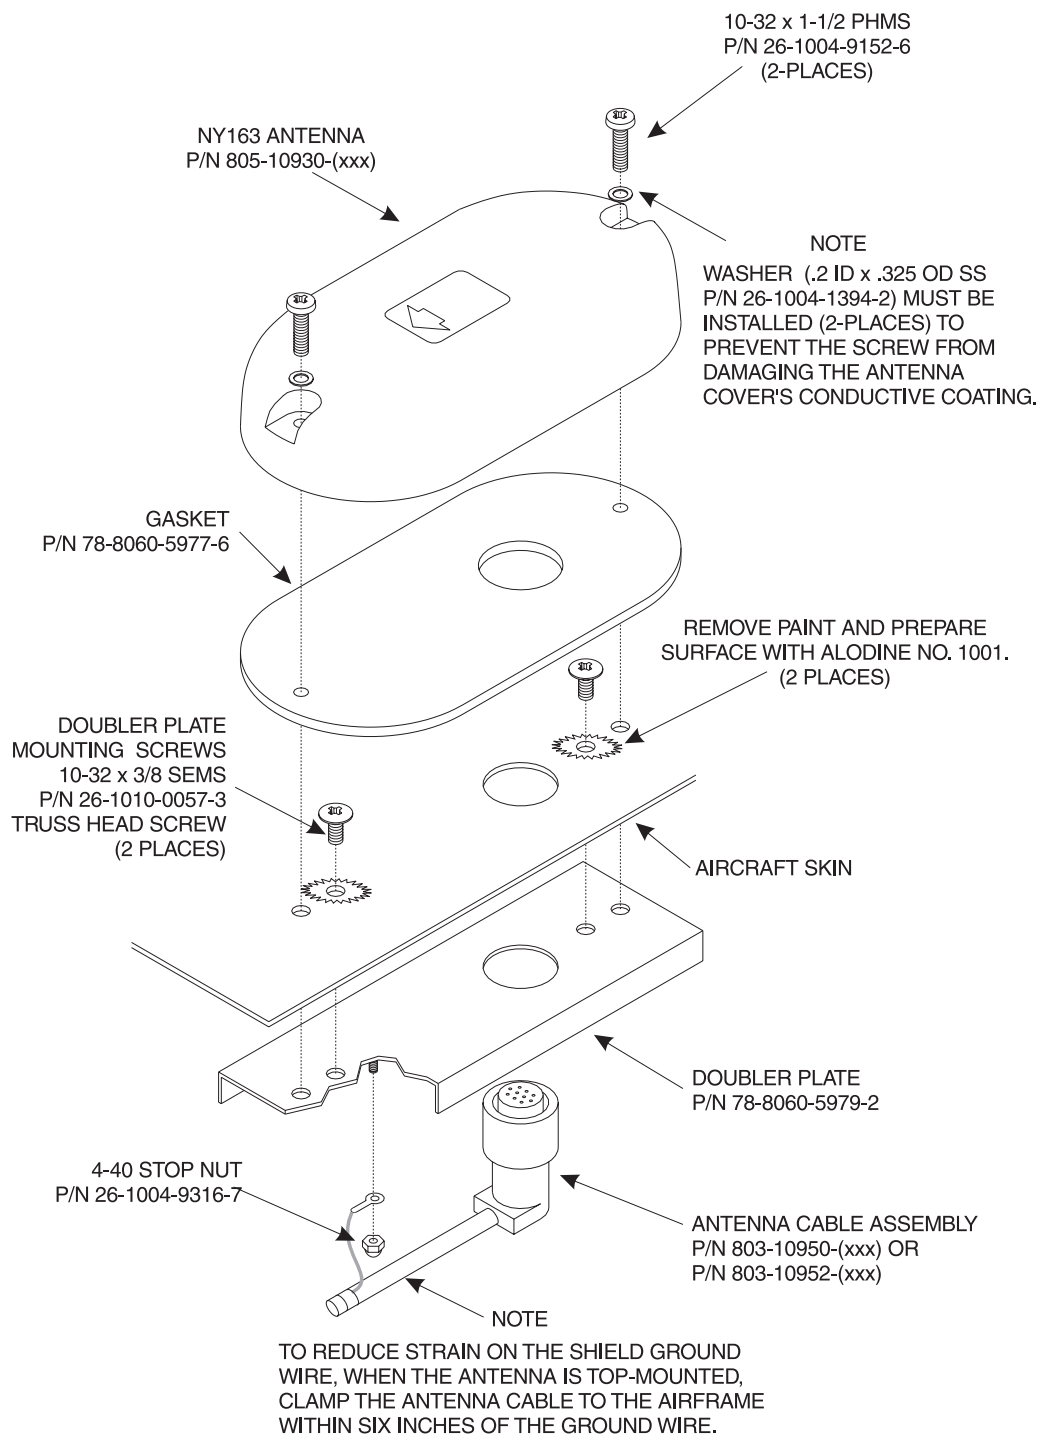

Figure 2-4. Antenna and Doubler Installation
2. Attach the doubler plate to the inside of the fuselage as shown in figure 2-4.
3. Mount the antenna to the aircraft as shown in figure 2-4.